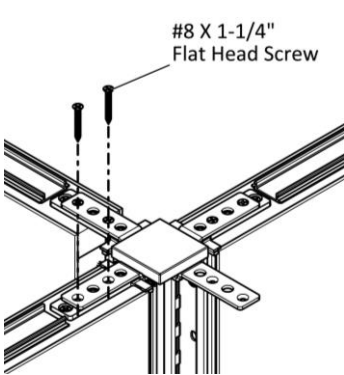

Figure 5
- Drive two #8 x 1-1/4" Flat Head Screws the holes in the 4-way top connector into the panel, (Figure 5).